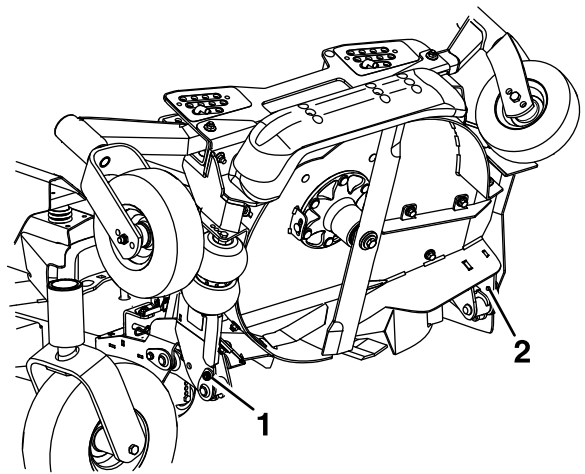
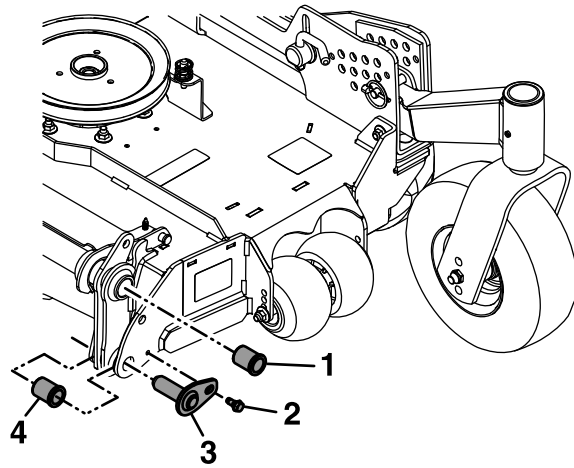

Figure 37
Figure 40
17. Remove and retain the lower pivot point bolts (reference Figure 37 and Figure 40).